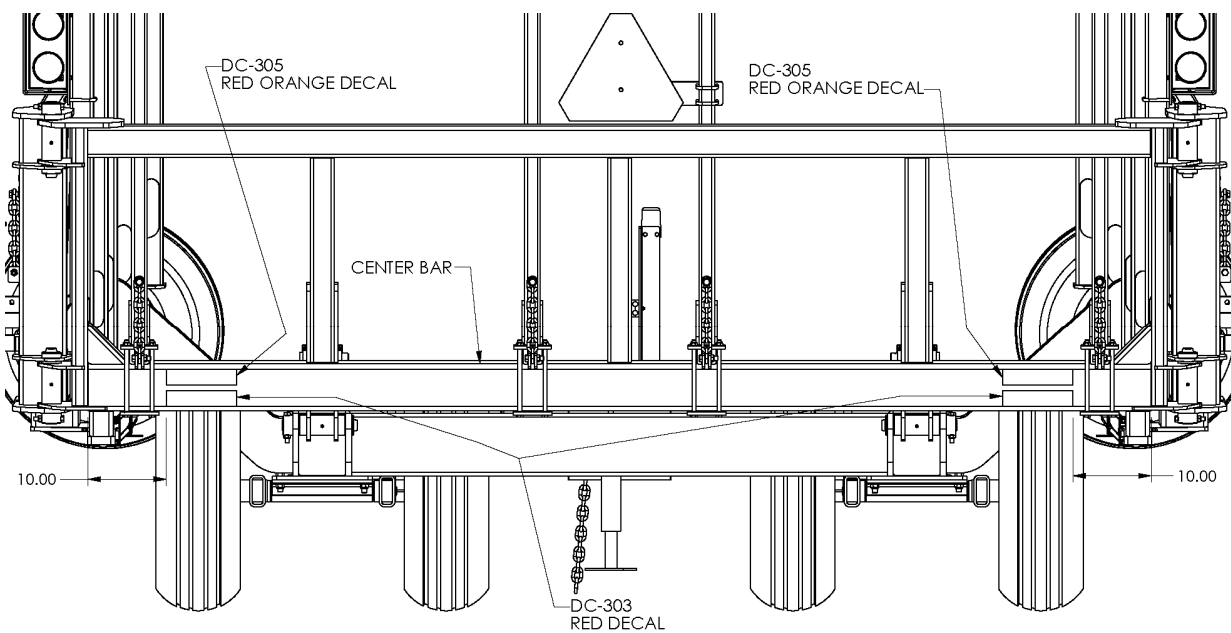

Figure 28
1. Apply the red/orange fluorescent (DC-305) and the red retroreflective (DC-303) decals to the Center Bar as shown in Figure 28.